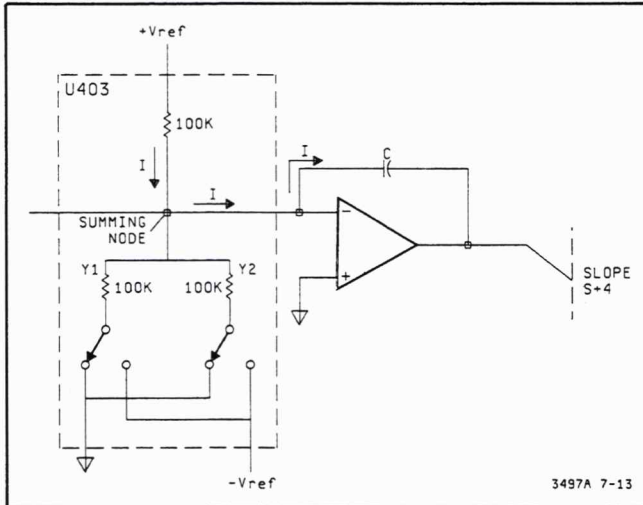
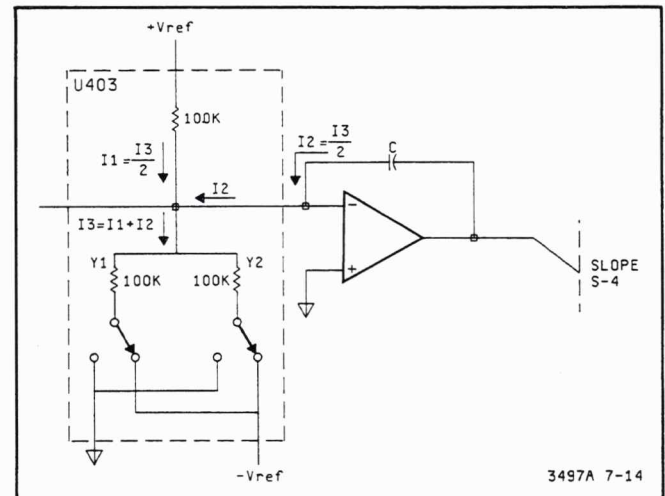

Figure 7-13. Slope S+4 Generation
Figure 7-14. Slope S-4 Generation
a. Slope S+4. Refer to Figure 7-13. Note that both Y1 and Y2 paths are connected to ground. Since the summing node of the paths is a virtual ground and Y1 and Y2 are also connected to ground, no current flows between the paths and the summing node. Current does flow from +Vref (+Vref (Positive Reference Voltage, +12V) through a 100K ohm resistor into the integrator capacitor (C). This generates a negative going output slope.
b. Slope S-4. Refer to Figure 7-14. Note that both Y1 and Y2 paths are connected to -Vref (Negative Reference Voltage, -12VA). Since the summing node is a virtual ground, current flows from +Vref through a 100K ohm resistor and paths Y1 and Y2 to -Vref. Current also flows from the integrator capacitor (C) to -Vref. This current is generated because the total resistance of the Y1 and Y2 paths is smaller than the 100K ohm resistor from +Vref. The current from +Vref plus the current from the capacitor equals the total current through paths Y1 and Y2. Since the total resistance of paths Y1 and Y2 is 50K ohms, the current from +Vref (I1) and the current from the capacitor (I2) is half as large as the total Y1 and Y2 current (I3). The resultant output slope is positive.
7-173. Rundown Slope Generation. The S-4 and S+4 slopes are generated the same way it was done for the runup operation (see paragraphs 7-165). The only difference is that they are developed with the input current removed. The S+0 slope is generated the same way as the S+0 slope in runup (see paragraph 7-166). The S-3 and S-1 currents use the same circuitry configuration as the S-4 current (see Figure 7-14), but use different resistor values. The resistor values are such that the S-3 current is 1/10 the S-4 current and the S-1 current is 1/1000 the S-4 current. The S+2 current uses the same circuitry configuration as the S+4 current (see Figure 7-13). In this case, the resistor values chosen are such that the S+2 current is 1/100 the value of S+4 current.